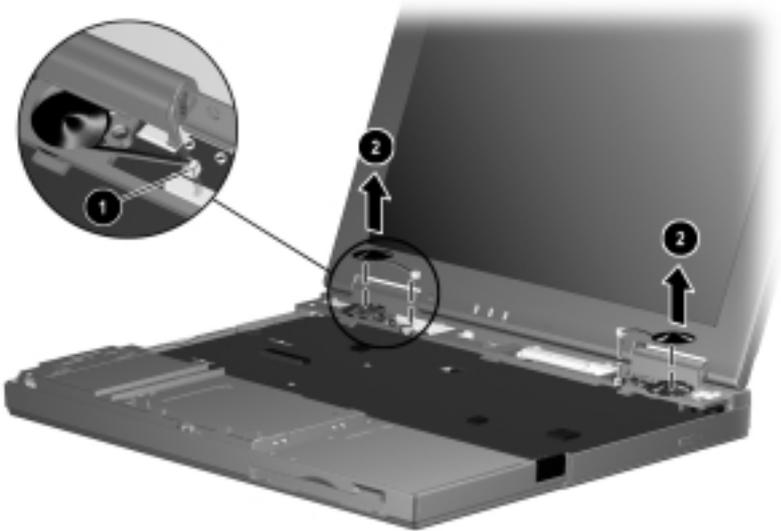

Figure 5-23. Removing the Speakers
2. Disconnect the speaker cables from the system board ❶ (Figure 5-23).
3. Remove the speakers from the speaker housing ❷.